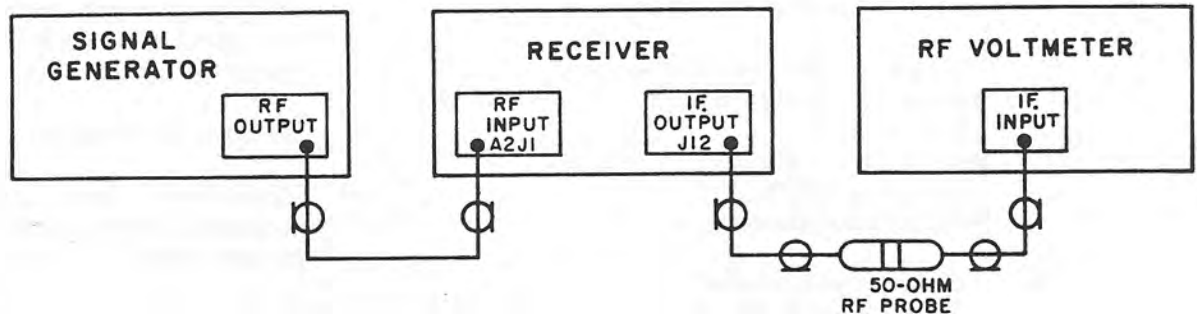

Figure 6-8. 455 kHz Amplifier, Am. Detector Gain Adjustment, Test Setup
(1) Test equipment required. The following equipment will be required for this test. Refer to table 1-3 for specifics.
(2) Procedures.
- (b) Connect test equipment as shown in figure 6-8.